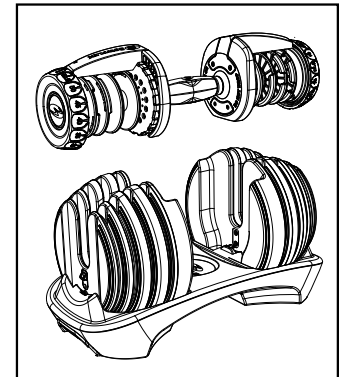

Figure 2
5. With both adjustment knobs set to 5, pull the handle straight up from the dumbbell. This will remove only the handle from the base, leaving all of the weight plates standing in the base (Fig. 2). The handle without plates represents the starting weight of 5 lbs (2.27 kg).